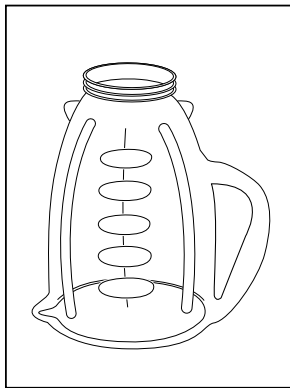

FIGURE 1
2. Turn jar upside down so the small opening is at the top. (Figure 1)